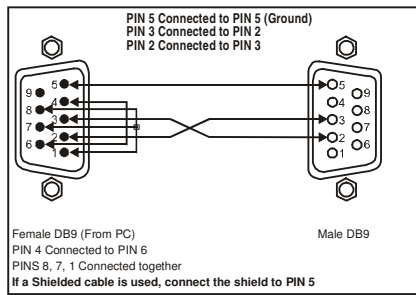

Figure 5: Connecting a PC without using a Null-modem Adapter
- Connect the RS-232 DB9 port on your PC to the RS-232 DB9 rear panel port on the Master **VS-311HDMI** unit, as Figure 5 illustrates